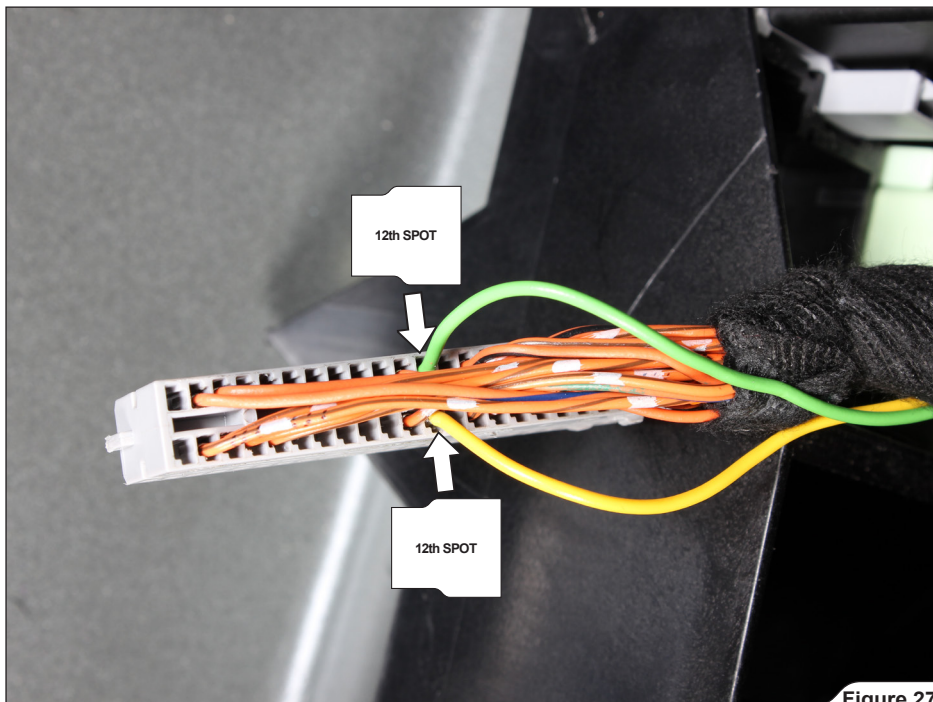

Figure 27
- ! **IMPORTANT:** make sure, that you plug in the wires, as follows (Figure 27, 28, 29):